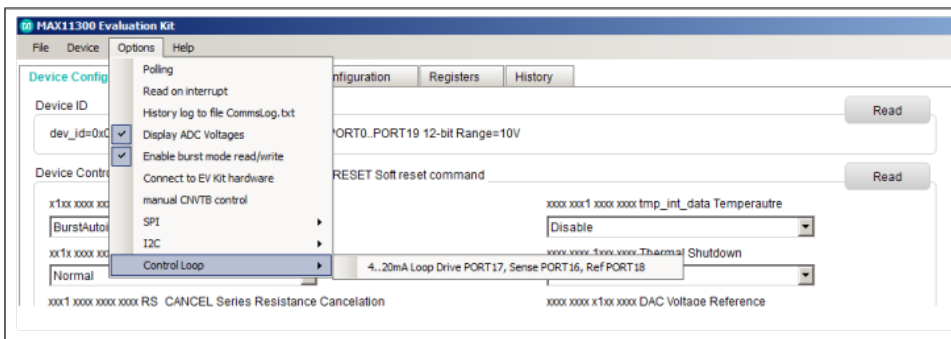

Figure 8. Control loop selection.
11. Select Option > Control Loop and "4–20mA Loop Drive PORT17, Sense PORT16, Ref PORT18" from the drop-down menu as depicted in Figure 8.